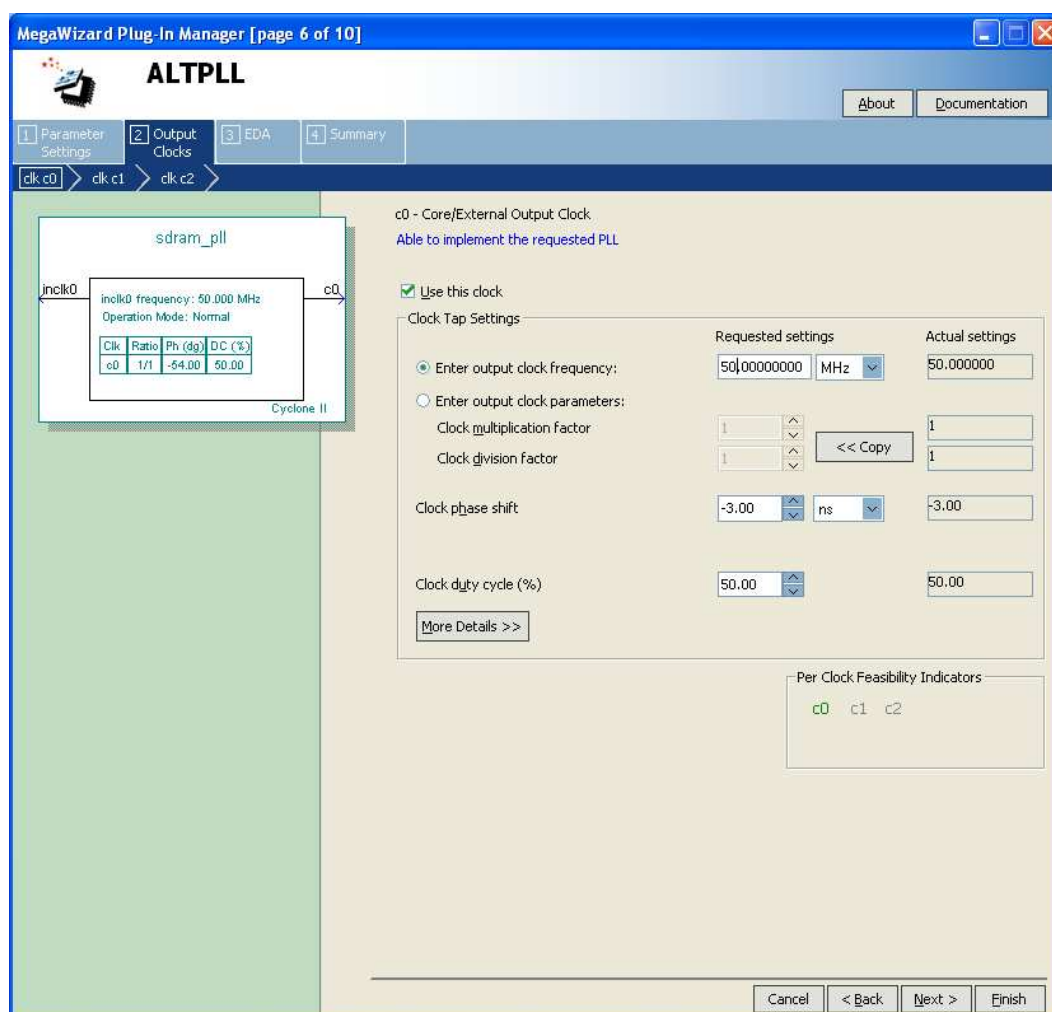

Figure 15. Specify the phase shift.
- We are interested only in the input signal *inclock0* and the output signal *c0*. Remove the other two signals shown in the block diagram in the figure by de-selecting the optional input *areset* as well as the locked output, as indicated in the figure. Click **Next** on this page as well as on page 5, until you reach page 6 which is shown in Figure 15.